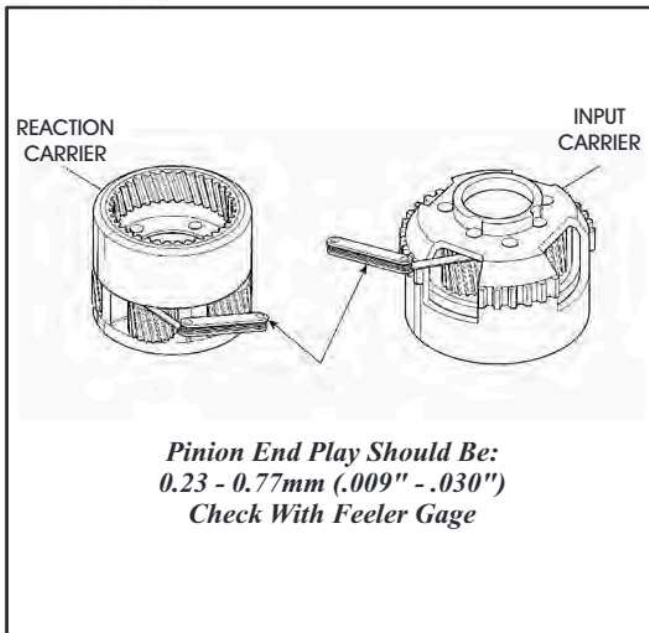

Figure 105
2. Check the planetary pinion end play with feeler gage, as shown in Figure 105. End play should be 0.23 - 0.77mm (.009\" - .030").